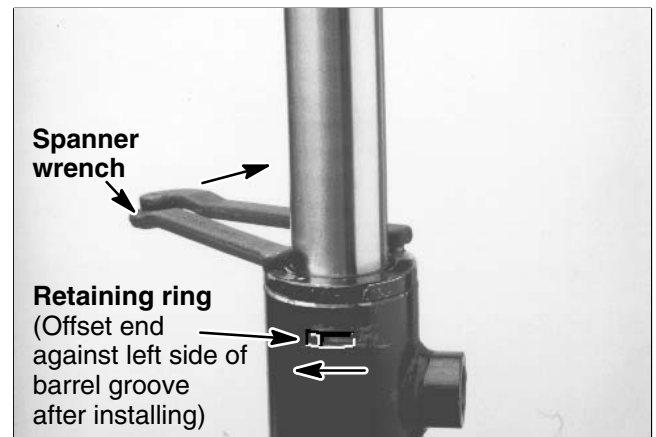

Figure 52
6. Secure head in barrel by installing retaining ring. Align key slot in head with the access groove in the barrel. Rotate head clockwise as far as the retaining ring will allow. The offset end of the retaining ring will be against the left side of the barrel groove as shown in Figure 52.